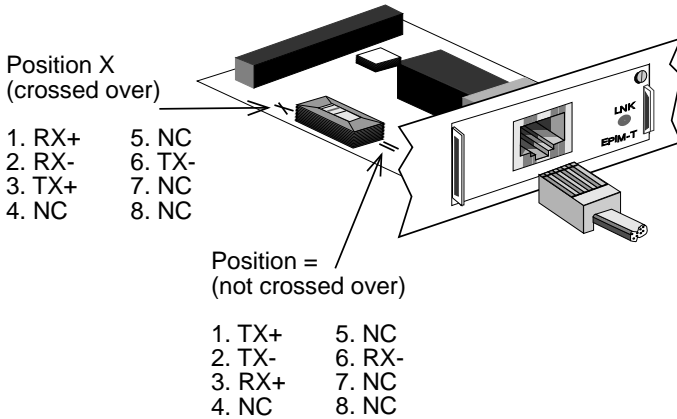

Figure 3-10. Connecting a Twisted Pair Segment to an EPIM-T
Before connecting a segment to the EPIM-T, check each end of the segment to determine if the wires have been crossed over for the proper connection. If the wires do not cross over, use the switch on the EPIM-T to internally cross over the RJ45 port. Refer to Figure 3-10 to properly set the EPIM-T cross-over switch.
1. Connect the twisted pair segment (Fig. 3-10) to the module by inserting the RJ45 connector on the twisted pair segment into the RJ45 port on the module.
- b. Verify that the RJ45 connector on the twisted pair segment has the proper pinouts. See Figure 3-10.